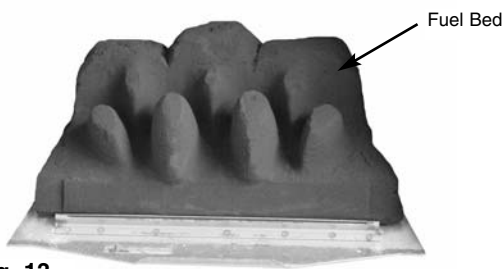

Fig. 13
1. Place the main fuel bed on to the middle section of the metal burner tray. It is important that the front edge of the fuel bed is located behind the burner strip (Fig. 13).